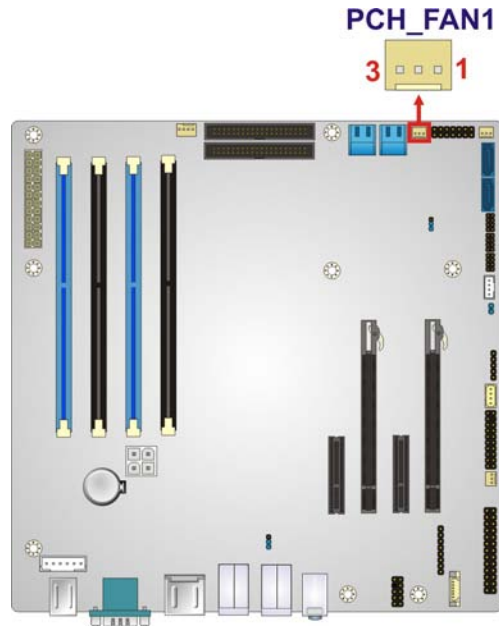

Figure 3-13: PCH Fan Connector Location
- CN Location: See **Figure 3-13**